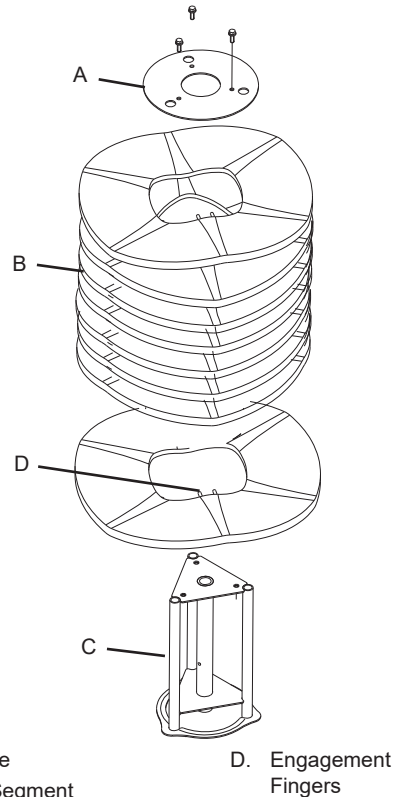

Figure 15 Brush Assembly
4. Stand broom assembly on one end (Figure 15 Brush Assembly).
5. Remove the three bolts from the end plate (Figure 15 Brush Assembly).
NOTE: Align segment engagement fingers (Figure 15 Brush Assembly) on alternating support shafts. This will evenly spread the rotating force through the drive system.